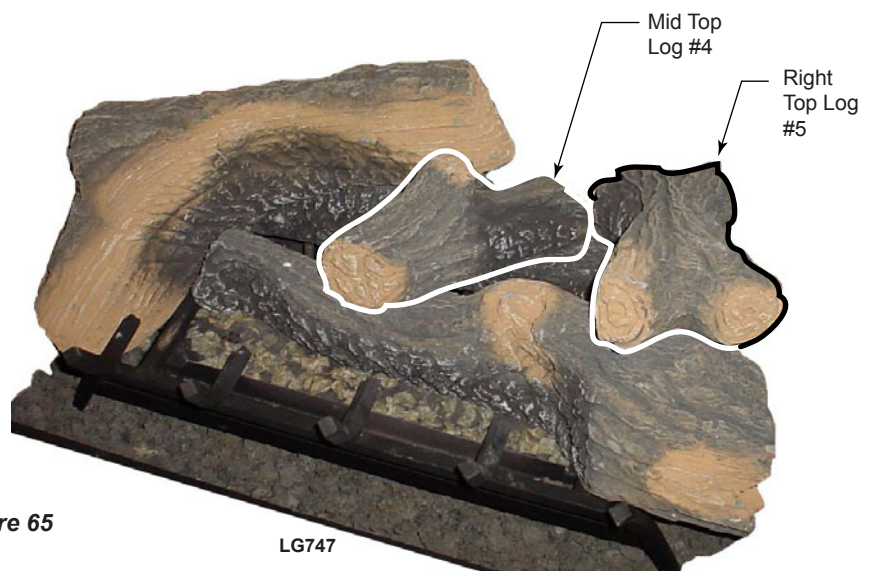

Figure 65
8. Place Mid Top Log #4 by matching the two notches on the bottom of this log with the two protrusions on log #1 & 2. This log, when seated, fits in the middle above logs 1 & 2. *Figure 65*
9. Place Right Top Log #5 by matching the two notches on the bottom of this log with the two protrusions on log #1 & 2. This log, when seated, is positioned toward the right. *Figure 65*